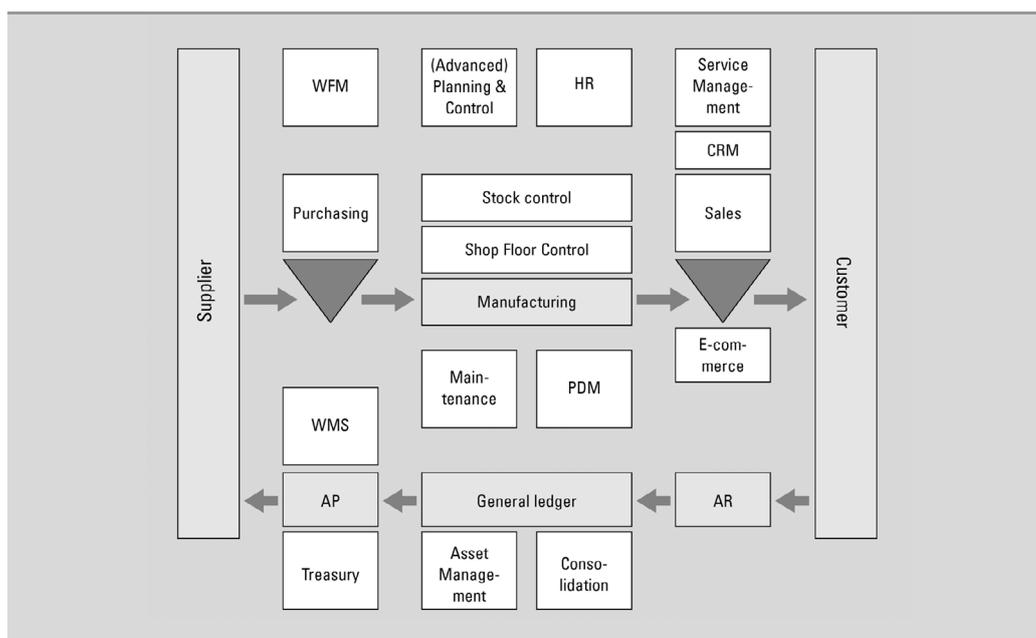

Figure 1.2 Enterprise Resource Planning
Figure 1.2 shows the most important functions that can be used by an ERP system in corporate operations. In this overview, the supporting functions are grouped around the logistics, the primary processes. The central feature is the flow of goods from the supplier to the customer: procurement results in the receipt and storage of raw materials (triangle), the various raw materials are processed during production into finished product units; these are subsequently delivered to the customer from stock. The way in which content is given to the primary processes of procurement, sales, stock control, shop floor control and manufacturing, is market and product specific. The flow of goods from the supplier to the customer is counterbalanced by a cash flow in the opposite direction: from the customer to the supplier. Recording of this cash flow takes place in the accounts receivable (AR) and accounts payable (AP) sub-administrations and in the ledger administration (general ledger).